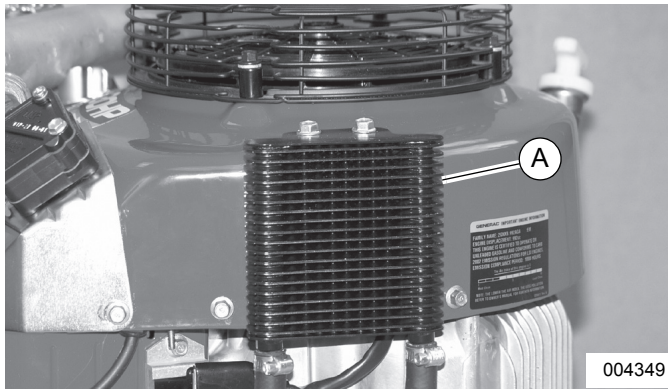

Figure 9-6. Oil Cooler
See Figure 9-6. All GTH/GTV-760/990 V-Twin engines are equipped with an oil cooler (A) mounted on the blower housing. Forced air from the flywheel fan flows through the oil cooler fins, dissipating heat from the engine oil.